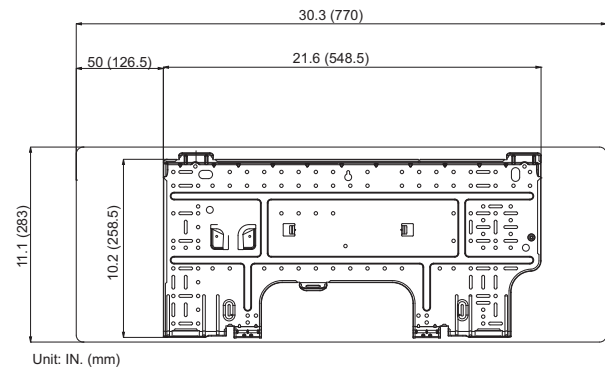
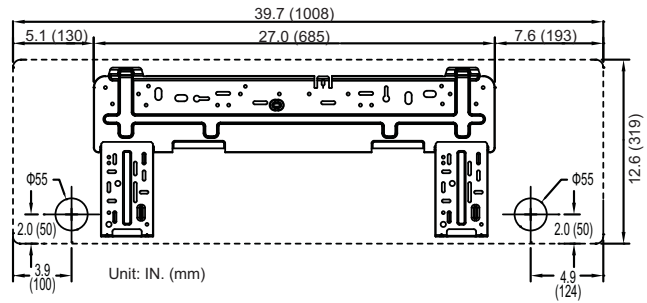

Fig. 6 – 09 and 12K Mounting Plate Spacing
Fig. 8 – 24k Mounting Plate Spacing
2. The mounting plate should be located horizontally and level on the wall. All minimum spacings shown in Fig. 6 through Fig. 8 should be maintained.